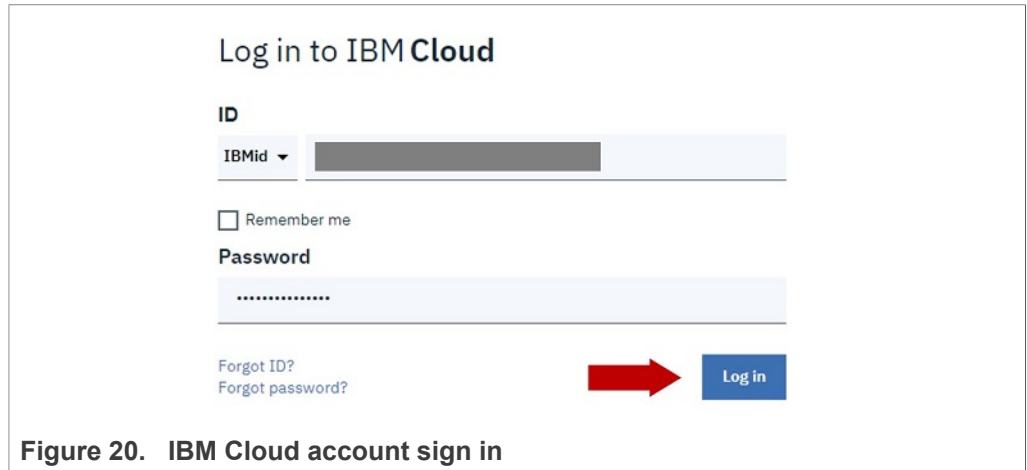

Figure 20. IBM Cloud account sign in
2. Confirm your account using a link sent to your email. Then, go to <https://cloud.ibm.com/login> and sign in your account as shown in Figure 20: